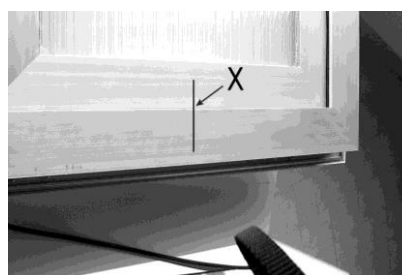

Figure 12
1. Pencil in an "X" over the centre line of the window frame (fig. 12).